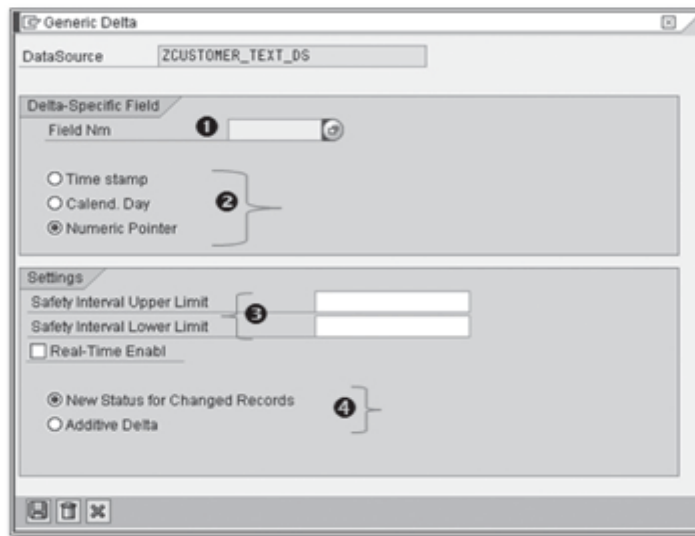

Figure 8.11 Setting Available for Creating Delta-Capable Generic DataSources
When you click the Generic Delta button, a pop-up box appears, as shown in Figure 8.11. Next we divide our discussion of the fields on the screen based on the screen's two main areas: Delta-Specific Field, and Settings.
Making a DataSource delta capable requires a delta-relevant field that supports delta identification and enables the delta capability. Enter the name of that field in the Field Nm field shown in ❶ of Figure 8.11. The system uses three different types of fields to recognize delta records (❷): Time Stamp, Calend. Day, and Numeric Pointer. The assumption regarding the generic delta DataSource is that the value of the field declared here increases monotonically over time. When a delta-relevant field (e.g., a timestamp) exists in the extraction structure, the system determines the data volume transferred in the delta mode by comparing the maximum value transferred with the last load, to the amount of data that has entered the system after the maximum value of the last load. Only those records that have a higher value are identified as delta records.
In ❸ of Figure 8.11, you can see the fields for setting a safety interval. The purpose of a safety interval is to make the system extract records (with the next extraction) that appear during the extraction process but aren't extracted (perhaps because they haven't been saved at the time of extraction).
A DataSource with this setting indicates that a record to be loaded returns the latest value for all characteristics and key figures. The data from this type of DataSource can be loaded to a DSO and InfoObject with master data in SAP NetWeaver BW (❶ of Figure 8.11).